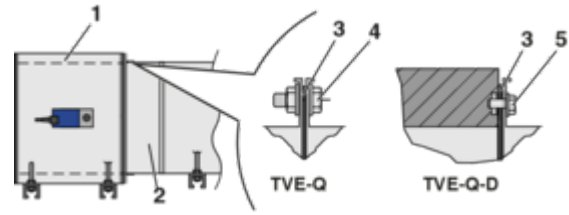

Fig. 13: Detail X: Connection version TVE-Q without acoustic cladding or TVE-Q-D with acoustic cladding
- X Detail ⇒ Fig. 13
X Detail ⇒ Fig. 13